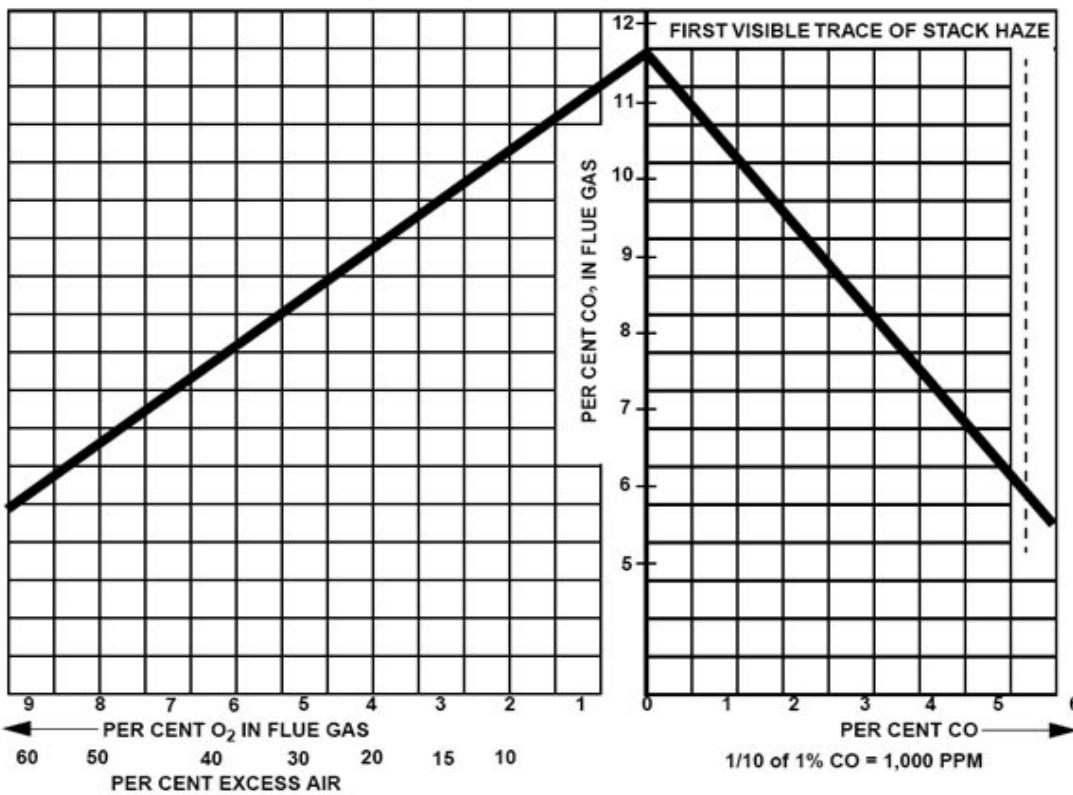

FIGURE 5-5. Flue Gas Analysis Chart for Natural Gas
Burner efficiency is measured by the amount or percentage of CO_2 present in the flue gas. The theoretical maximum CO_2 percentage for natural gas is approximately 11.7%. As shown in Figure 5-5, this is attained when there is no excess oxygen (O_2) or carbon monoxide (CO). A definite percentage of excess air (oxygen) is required by most local authorities and the burner should never be operated with an air-fuel ratio that indicates a detectable percentage of carbon monoxide.